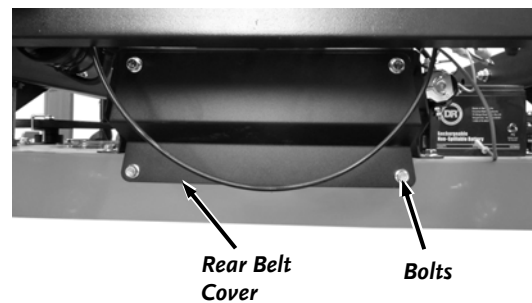

Figure 47
6. At the rear of the machine, use a 9/16" Wrench to remove the three (Mow Pro-44) or four (Mow-Pro-60) Bolts securing the Rear Belt Cover and remove the Cover (Figure 47).